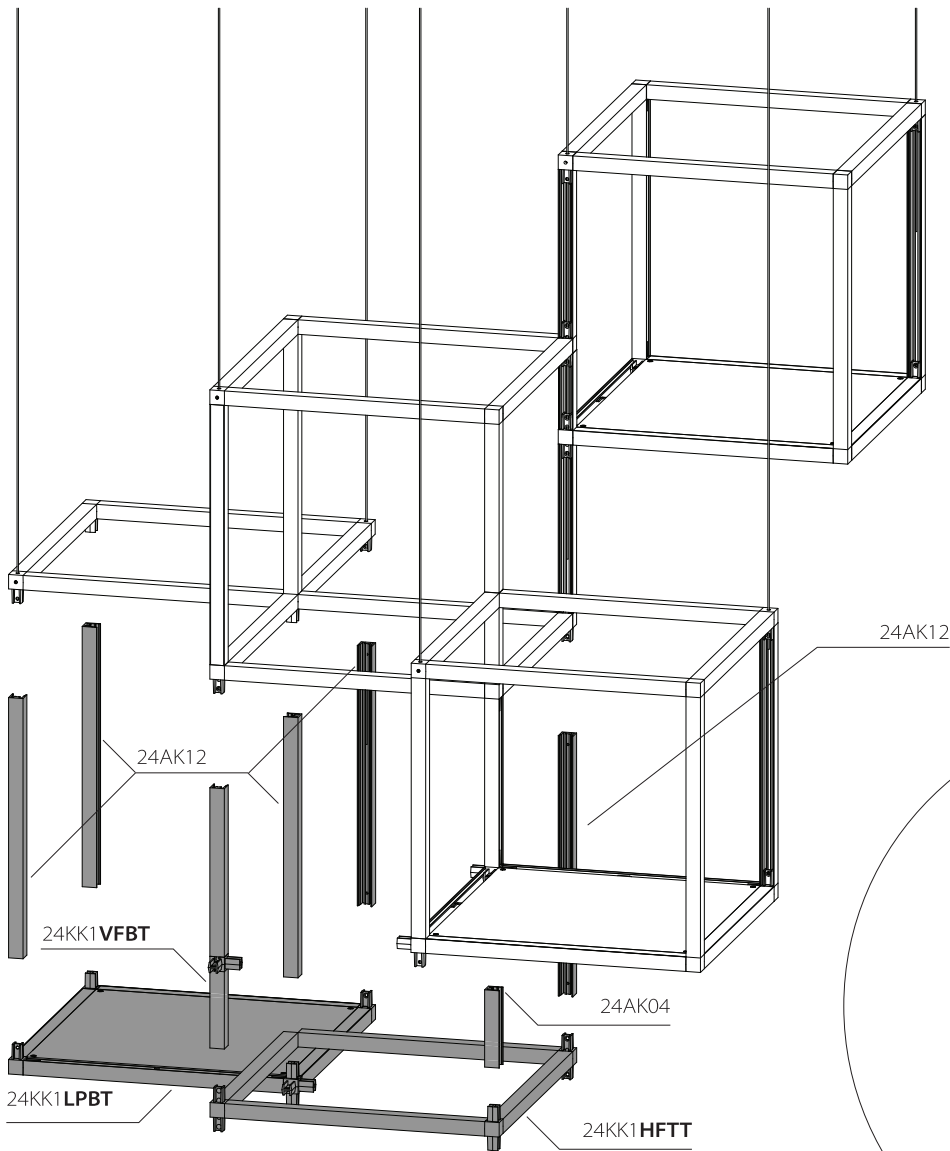

Fig. 9a
- 7b. Install 24KK1HFTT to 24KK1LPBT and install 24KK1VFBT, (5x) 24AK12, and (1x) 24AK04 to 24KK1LPBT and 24KK1HFTT assembly in orientation shown in Fig. 9a and install assembly to 24KK1HFBT, 24KK1HFST, and 24KK1LPCT assembly in the orientation shown in Fig. 9a.